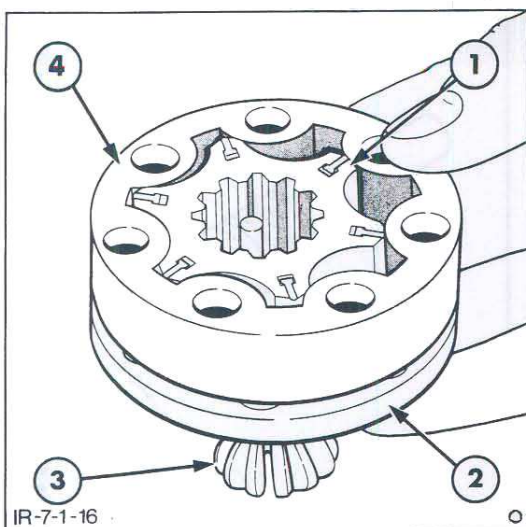

Figure 17
9. Separate the drive link by sliding the metering element on the spacer and allowing the drive link teeth to clear the spacer hole. Remove the drive link and separate the metering element from the spacer. Use extreme caution to stop the vanes and springs from falling out. When handling the metering element, pressure should be applied to the rotor by gripping the metering element between the fingers and pressing the rotor into contact with the stator, Figure 17.